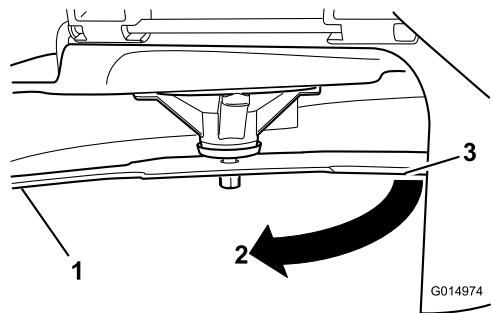

Figure 55
- Measured distance between blade and the surface (A)
- Rotate the same blade 180 degrees, so that the opposing cutting edge is now in the same position (Figure 55).